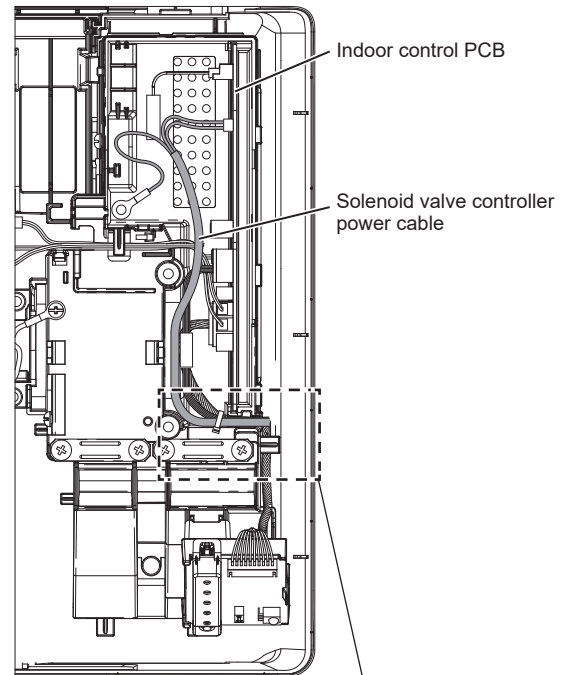

Fig. 2-7-7
- Remove the base plate of terminal board. (When removed, the figure shows in the Fig. 2-7-7 from Fig. 2-7-8.)
- Make wire and cable connections referring to Fig. 2-7-7.